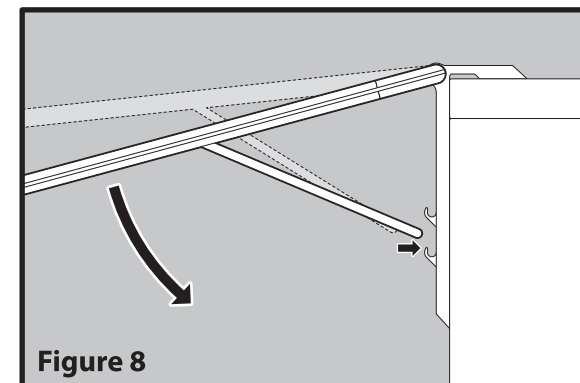

Figure 8
8. Place the bent wire into one of the slots on the brackets to secure in place (figure 8).
8. Pour supporter l'étendoir, accrocher la tige d'appui aux fentes des supports (figure 8).